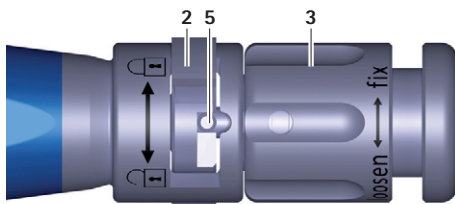
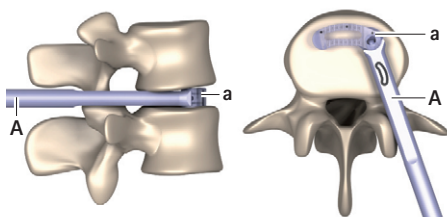

Fig. 3 Close-up view of the insertion instrument, switch closed
Fig. 11 Implant in end position
- Turn the switch **2** to the right (direction ) , see Fig. 3.
- Turn the rotary nut **3** counterclockwise ("loosen" direction), until the pin **5** is fully in the switch **2**, see Fig. 3. When doing so, ensure that the pin **5** does not jam the switch **2**.
- ▶ Turn the switch **2** to the right (direction ) , see Fig. 3.
- ▶ Once the end position (see Fig. 11) is reached: turn the rotary nut **3** counterclockwise ("loosen" direction), until the pin **5** is fully in the switch **2**, see Fig. 3. When doing so, ensure that the pin **5** does not jam the switch **2**.
- ▶ Turn the switch **2** to the right (direction , see Fig. 3.